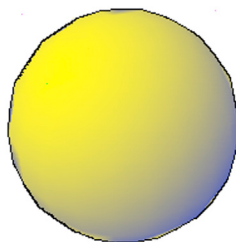

FIGURE 23.21 Sphere primitive.
Step 3. A solid sphere is drawn based on the movements of your mouse, or you can enter a value by typing in a radius or pressing d for diameter. The final shape is shown in Fig. 23.21.